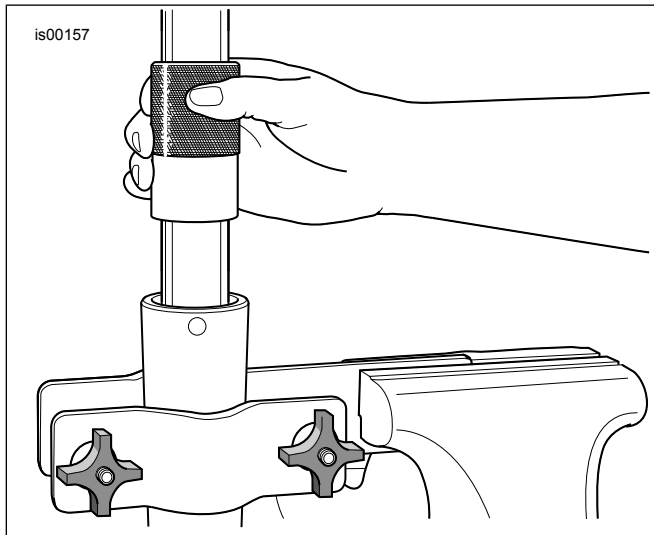

Figure 2. Install Fork Oil Seal
2. Insert spring (12) and spring collar (16) into fork tube, with dense section of coils toward damper tube. Push bottom of damper tube through the opening at the bottom end of the fork tube. Place oil lock (I) over end of damper tube.
3. Apply Loctite 565 Thread Sealant to screw (11). Position fork tube and damper tube in fork slider (J). Hold the assembly in place by exerting pressure on the spring. Install screw and copper washer (11) from kit.
5. Coat inner diameter (ID) and outer diameter (OD) of slider bushing (H) with clean fork oil. Slide slider bushing down fork tube (either direction).
6. Slide slider washer (G) down fork tube until it contacts slider bushing (either direction).
7. Coat the ID of the **new** fork oil seal (8) with clean fork oil. Coat the OD of the fork oil seal with Harley-Davidson Seal Grease. With the lettering side facing up, slide fork oil seal down the fork tube until it contacts the slider washer.
8. See Figure 2. Obtain the Fork Seal/Bushing Tool (HD-36583) and proceed :
- b. See Figure 2. Using the tool like a slide hammer, drive fork oil seal (with slider washer and slider bushing) down the fork tube until retaining clip groove is visible in fork slider ID.
1. Unless already installed, coat new fork tube bushing (E) ID with clean fork oil. Expand fork tube bushing at split line only as far as required to slip over end and into groove of fork tube (14).
2. Install fork slider (K) in fork tube holder. Slide fork tube (14) into fork slider.
3. Coat inner diameter (ID) and outer diameter (OD) of slider bushing (H) with clean fork oil. Slide slider bushing down fork tube (14) (either direction).
4. Slide slider washer (G) down fork tube until it contacts slider bushing (either direction).
5. Coat the ID of the **new** fork oil seal (8) with clean fork oil. Coat the OD of the fork oil seal with Harley-Davidson Seal Grease. With the lettering side facing up, slide fork oil seal down the fork tube until it contacts the slider washer.
6. See Figure 2. Obtain the Fork Seal/Bushing Tool (HD-36583) and proceed:
- c. Slide the retaining clip (F) down the fork tube until it contacts the fork oil seal. Install retaining clip in the fork slider groove. Do not expand or stretch retaining clip to install on fork tube or clip could be damaged.
7. Install dust seal (15).
9. Install oil lock (9) over the end of the damper cartridge (7).
12. Apply Loctite 565 Thread Sealant to screw (11). Install new screw (11) with copper crush washer. Slide screw through hole at bottom of fork slider and start into end of damper cartridge.
13. Obtain fork spring (6) from the kit. Install new fork spring into fork tube.
14. Put a shop rag on the floor. Turn the fork assembly upside down. Press the end of the spring against the rag. Compress the spring and tighten the screw (11) to 20 ± 5 N·m (15 ± 4 ft-lbs).